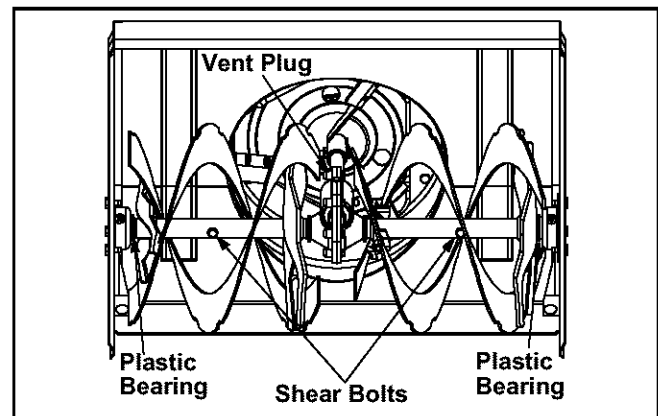

Figure 20
- At least once a season, remove shear bolts on auger shaft. Oil or spray lubricant inside shaft and lubricate the auger bearings. See Figure 20.
- The augers are secured to the spiral shaft with two shear bolts and hex lock nuts. If you hit a hard foreign object or ice jam, the snow thrower is designed so that the bolts may shear. Refer to Figure 20.